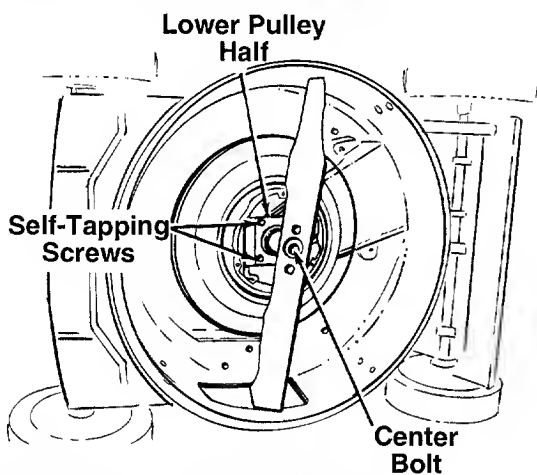
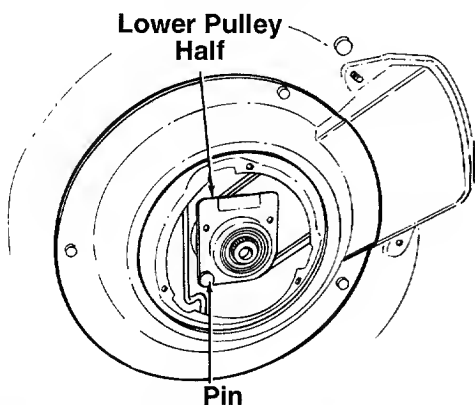

FIGURE 12B.—Six Speed Models
FIGURE 13A.—Six Speed Models
- B. **Six Speed Models:** Remove the two self-tapping screws which secure the lower pulley half. See figure 12B. Rotate the lower pulley half 90° clockwise (see figure 13A) and remove from mower. Remove the belt from around the crankshaft.